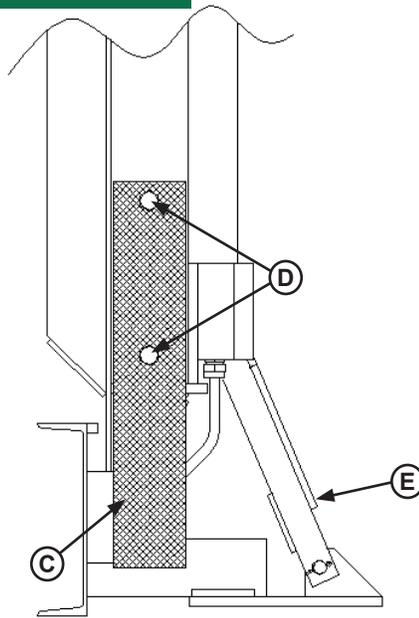

Figure 27
When maintenance is to be performed on the dock leveler, place the maintenance props (C) in their service/down position with hardware (D) fully secured and ensure the storage prop (E) is locked out with the prop pin and clip (F). See Figures 27 and 28. The lip may fold down if the platform has rested on the maintenance props.